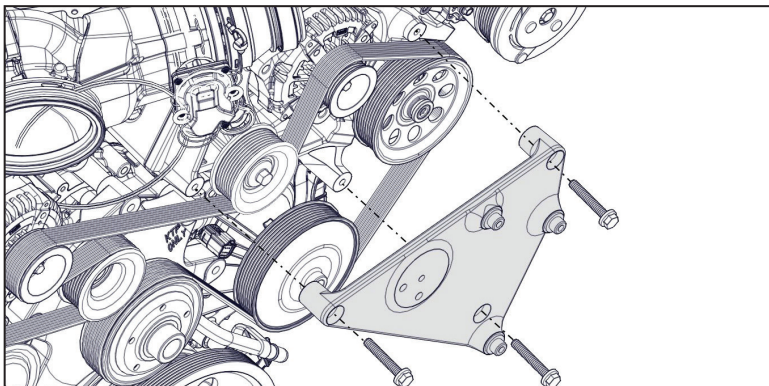

Figure 57 — Installing the FEAD bracket
- ☐ Install the VMAC FEAD bracket onto the VMAC main bracket (Figure 57).